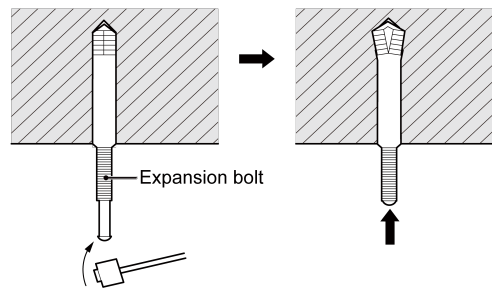

Fig.4.1.4
2) Insert the M10 expansion bolt into the hole and then knock the nail into the bolt, as shown in Fig.4.1.4.